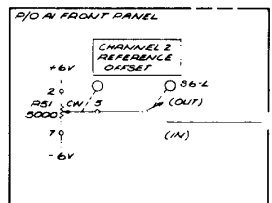

Figure 7-1. Channel 2 Summing Amplifier Partial Schematic
- D** CHANNEL 2 SUMMING AMPLIFIER: Change A2S6-L CHANNEL 2 REFERENCE OFFSET pushbutton connections as shown in partial schematic Figure 7-1.